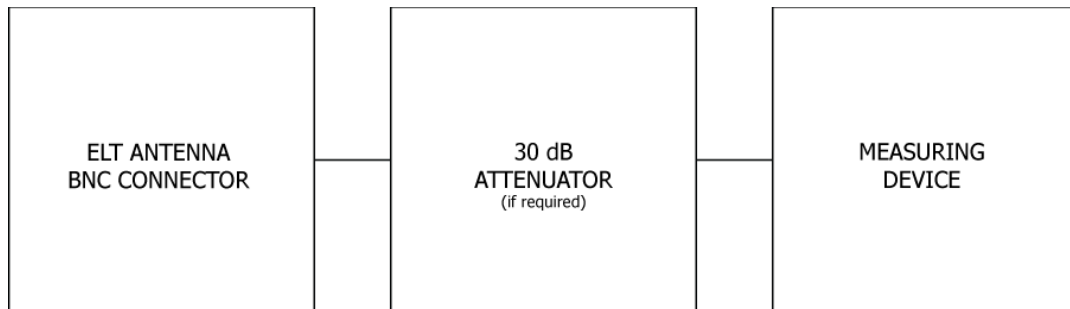

Figure 6 Performance Test Setup
- a) The ELT 4000 firmware continually keeps track of the beacon run time. The beacon controller microprocessor writes the operating time information to a memory Integrated Circuit (IC) in the battery pack, keeping the information up to date. Per FAA regulations, an ELT battery must be replaced if the operation time is greater than one hour.
- 3) For final airworthiness verification, the ELT's own battery pack should be used as the power source for these measurements. An alternate power source should be used where lengthy servicing, other than the performance tests, is anticipated. Expired battery packs should be used if the airworthiness performance of the battery pack in the system is not required. The battery packs are capable of at least fifty (50) hours of operation at the end of five years useful life.
- 4) To prevent damage to the measurement equipment from the 5W, 406 MHz burst, install an RF attenuator (rated 50 ohm) between the ELT antenna output and the measurement equipment. Typical attenuation is 30 dB, 50 ohm, and rated at 5 watts for 1/2-second duration (see Figure 6).
- 1) Connect the measuring device as specified in Figure 6 Performance Test Setup.